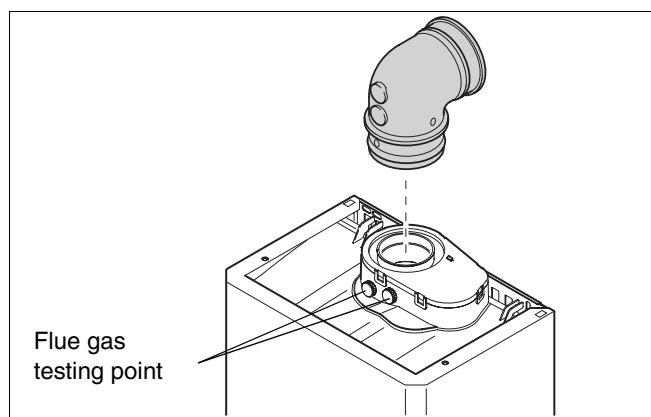

fig. 15 Elbow with flue gas testing point
- Push the assembly through the wall and slide the turret onto the flue connector. Refer to figure 15.